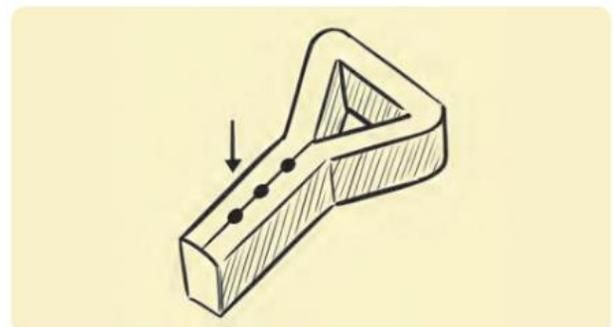

Figure 10.13 Drilling through
- 7 Use a drill and an appropriate drill bit to make a hole as indicated in Figure 10.13. This is to improve the holding capacity of the peg.